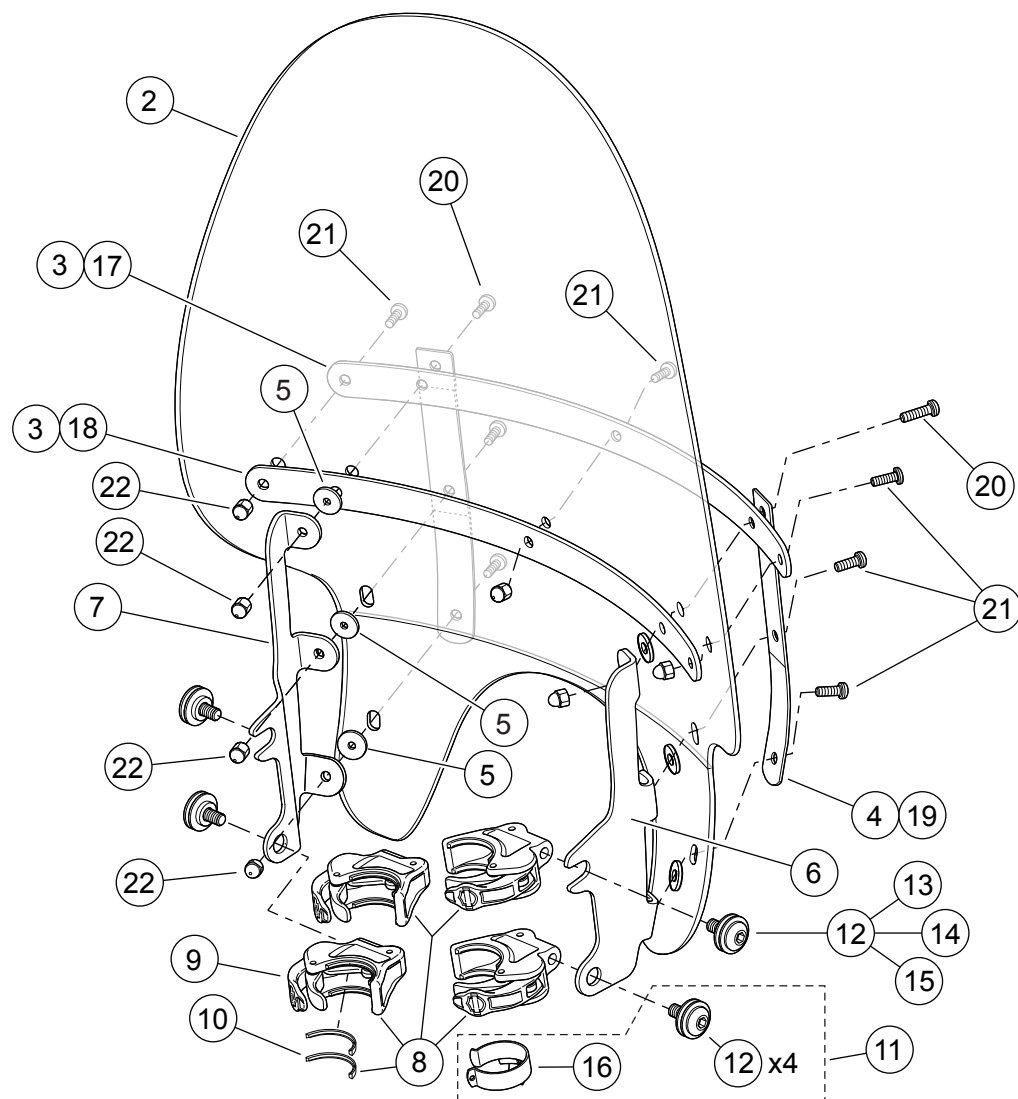

Figure 2. Service Parts, XL1200X Quick Release Windshield
See Figure 2 and Table 2.
2. See Figure 2. Remove the clamp assemblies (8) and hardware kit (11) from the packaging, and separate similar parts in preparation for assembly.
3. **All kits.** Center the windshield around the headlamp, and seat the clamps onto the fork tubes. See Figure 2. Snap the throttle cable clip (16) around the right side fork tube, and route the throttle cables through the guide opening.